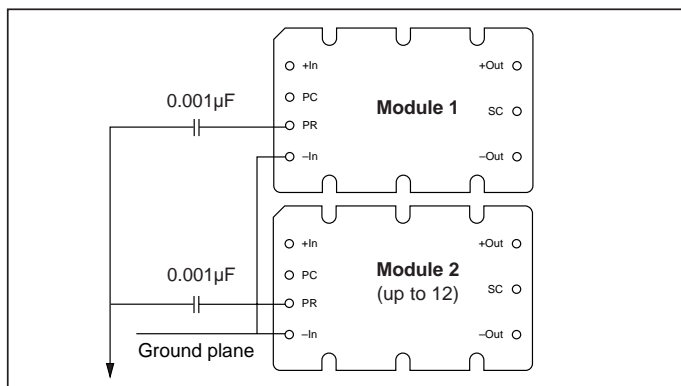

Figure 10—AC coupled single-wire interface.
**AC coupled single-wire interface.** All PR pins are connected to a single communication bus through  $0.001\mu\text{F}$  (500V) capacitors. This interface supports current sharing and is fault tolerant except for the communication bus. See Figure 10.